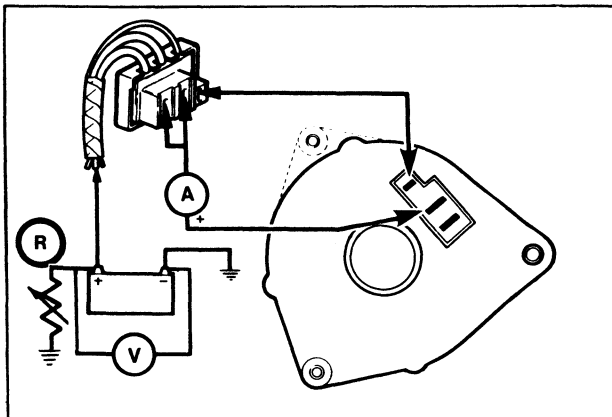

FIG. 3 Output Test
1. Connect Voltmeter Ammeter and Rheostat as shown in Figure 3. Use caution to prevent grounding the terminals to the alternator housing.